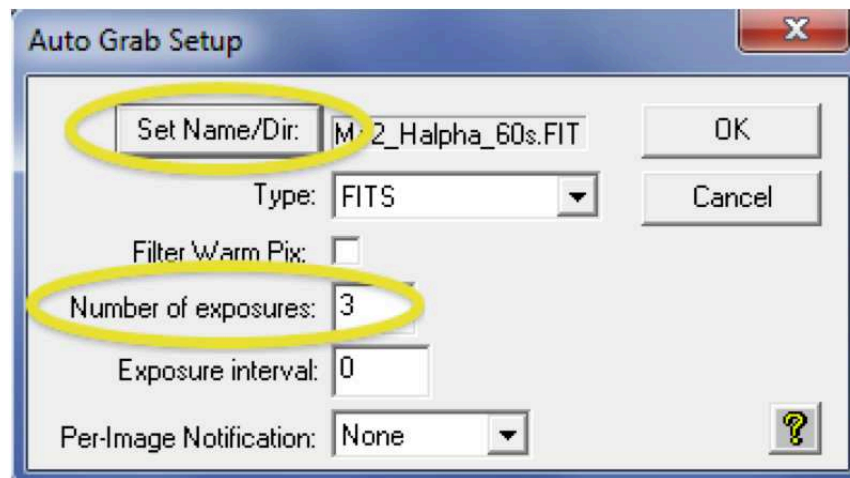

Figure 17: Autograb panel with default values and user options indicated by circles.
- **Special Processing** Choose *None* for single image recording and use *Auto Grab* for recording sequences of images. For single recording one can save the image after acquisition by using the quick launch button *Save* (see *Fig. 15*). If *Auto Grab* is selected a new pop-up window will appear where one can select the root filename and directory using the button *Set Name/Dir*, and the *Number of exposures* to be consecutively acquired. Do not change the other settings (use default values given in *Fig. 17*).